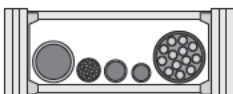
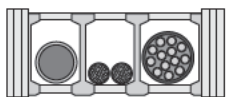

Figure 3
Figure 4
2. Arrange cables and hoses in PowerTrak so that load is evenly distributed across width with largest and/or heaviest cables/hoses located to the outer sides of the PowerTrak (Fig. 3). Use separators between different sizes of cables and hoses to maintain proper spacing and to reduce cable/hose jacket wear (Fig. 4). Do not place large cable or hoses in same compartment with small ones (Figs. 5 & 6).